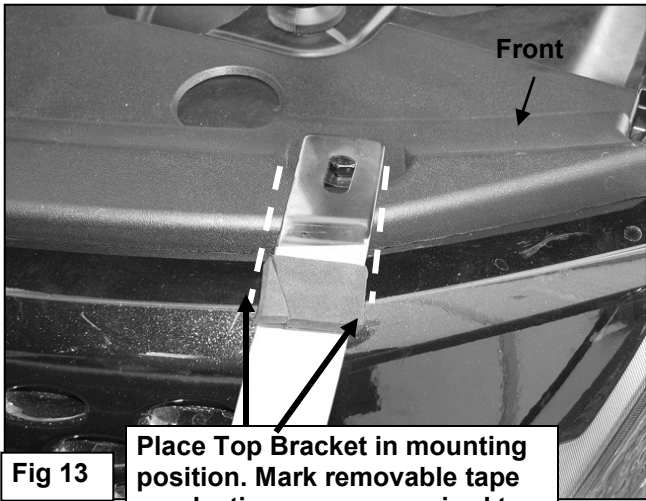

Fig 13
10. Open the front hood. Cover the top of the grille and plastic cover, (driver and passenger sides), with removable tape, (masking tape preferred-tape not included), to avoid damage to finish during Top Bracket installation, (Figure 12). Select the driver side Top Bracket. Hold the Top Bracket in approximate position between the Grille Guard and the hex bolt on the top cover. Mark the location onto the tape on the plastic cover, (Figure 13). Repeat this Step for passenger side Top Bracket.